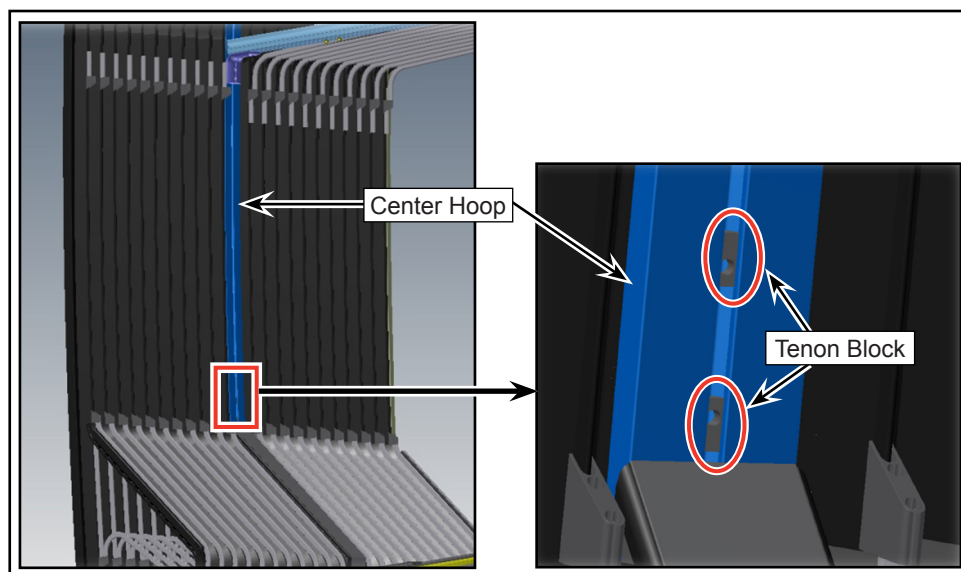

Figure 2 - Typical View of Articulation System Inside the Vehicle
- 1.3. Locate the articulation area inside the vehicle (see Figure 2).